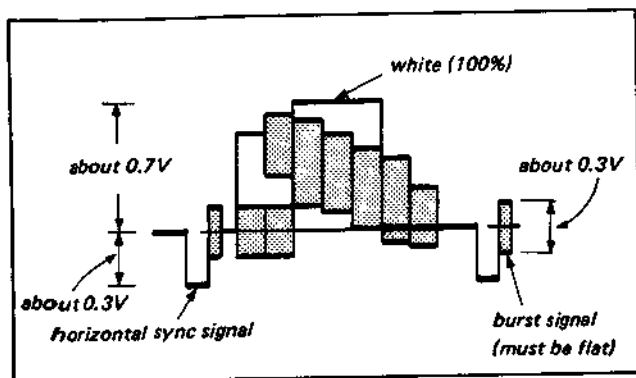

Fig. 5-1. Pattern generator color bar signal
- (1) The amplitude of the horizontal sync signal must be about 0.3Vp-p.
- (2) The amplitude of the video signal must be about 0.7 Vp-p.
- (3) The amplitude of the burst signal must be about 0.3 Vp-p.
- The video (color bar) signal used in the adjustments is shown in Fig. 5-1.